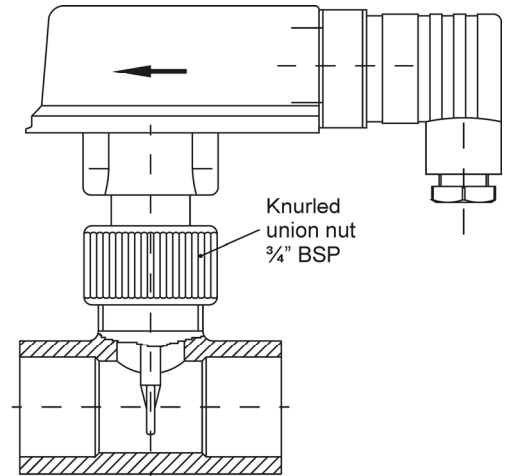

Fig. 6
- ✚ With version ...MKU seal the PVC tube section (Fig. 6) in the pipe using suitable adhesive joints.